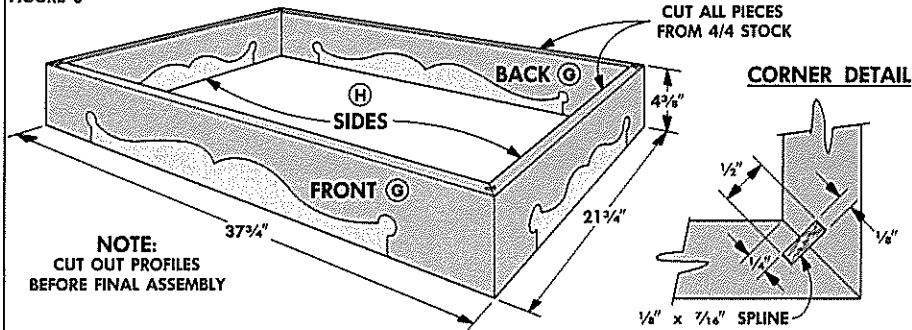

FIGURE 7
**SCROLLWORK.** Before gluing the frame together, I cut a scroll design along the bottom edges. Start by drilling 1"-diameter holes near the end of each piece, 1 1/2" up from the bottom edge, see Fig. 7.
Next, make a poster board half-pattern following the dimensions in Fig. 7. (Or send for the patterns, see page 24.) Then trace the pattern on the workpiece and cut it out with a sabre saw or band saw.